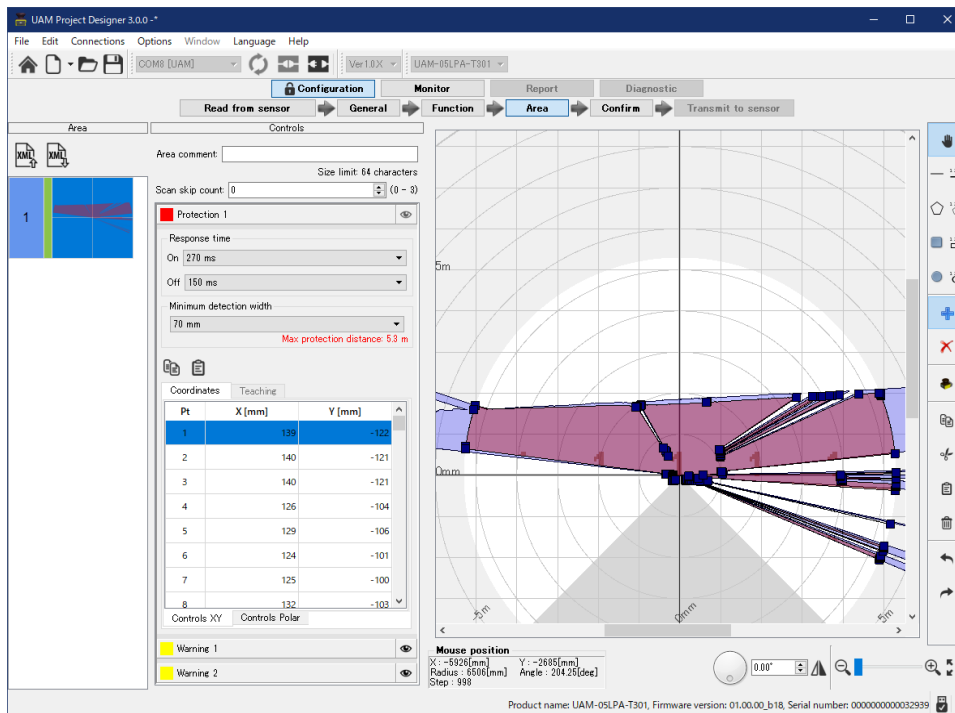

Figure 7-50 Area configured by teaching
- When the stop button is clicked, an area is generated by the smallest data recorded. Configured area will resemble the UAM's background. (Figure 7-50). When configuring the protection zone, if the background is not within the maximum detection distance it is set to maximum detection distance of UAM. In case of warning area, if there is no background within 20m from UAM it will be set to 20m.